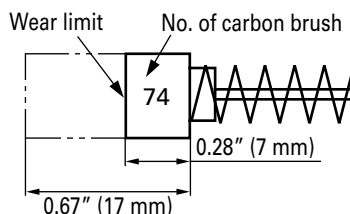

Fig. 11
3. Inspecting the carbon brushes (Fig. 11)
Use HITACHI carbon brush No. 74 indicated in Fig. 11.